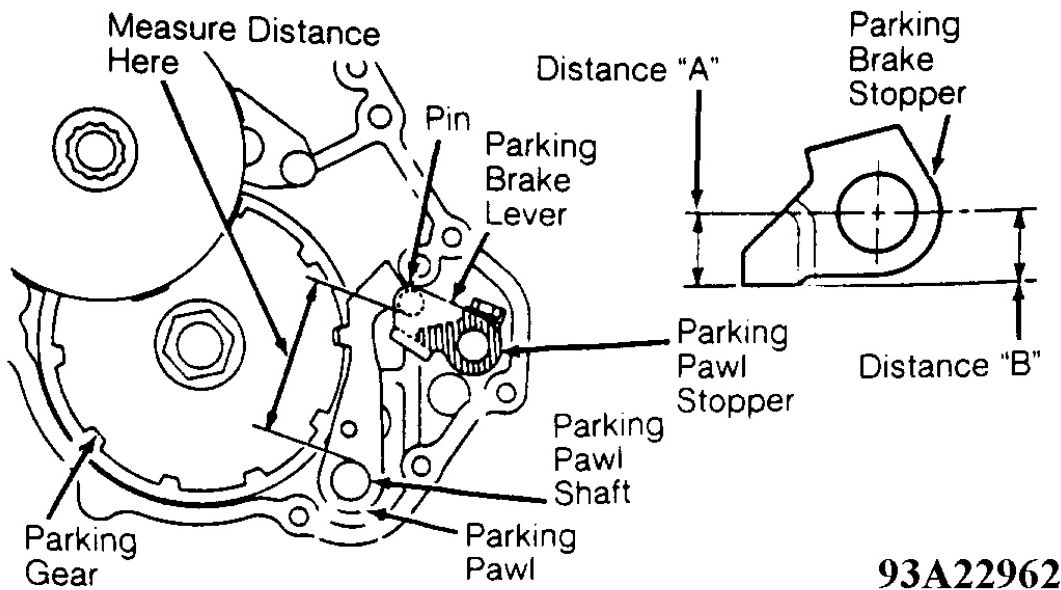

Fig. 39: Measuring Parking Brake Stopper Distance & Parking Brake Stopper
(1) Measured from center of parking brake stopper. See **Fig. 39** .